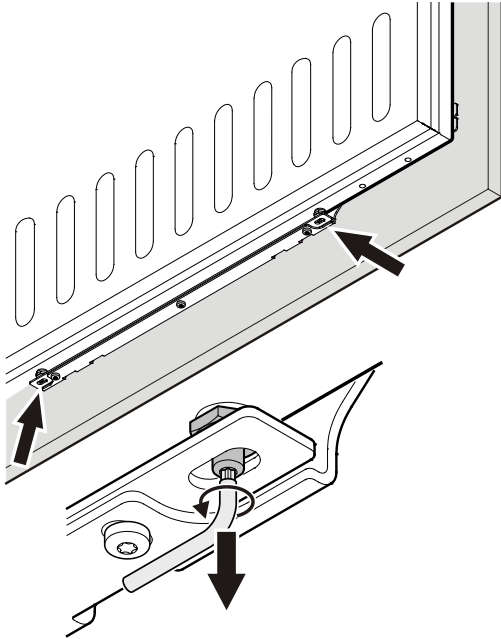

Figure 34
8. Turn the adjusting bolts (bottom refrigerator door) until they make contact with the attachment bracket (**Figure 34**).